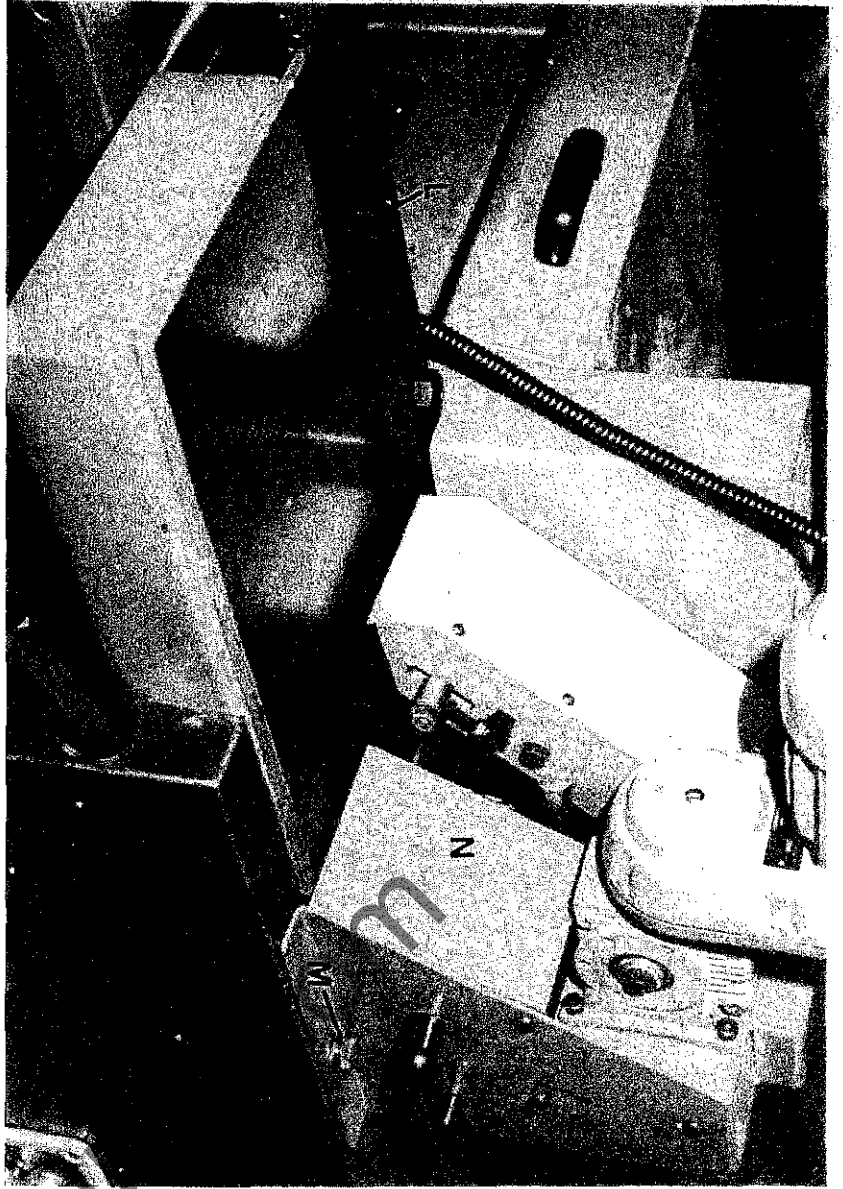

Fig 16
Outfeed planing fence "L" FIG.16 is preset before despatch at our works and should not require further adjustment. It is however, important that the cutting circle of planing side cutterblock is always kept in line with outfeed planing fence.
- 2) Remove locking knob "M" FIG.16 and lift power feed unit "N".